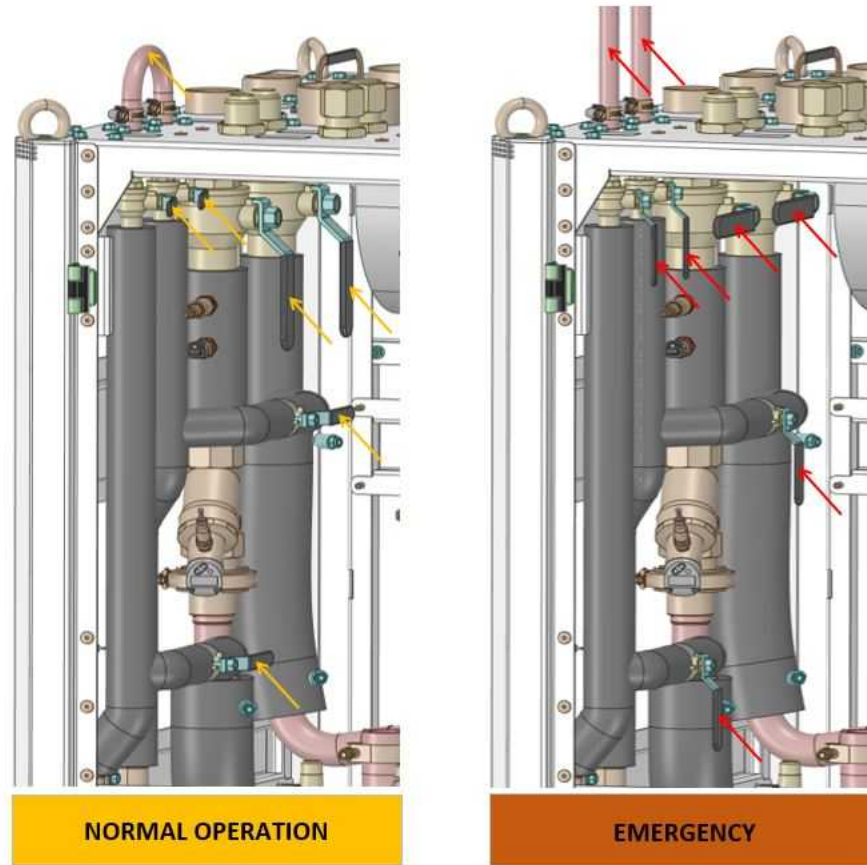

Figure 4-1: City Water Valve Configuration (on right)
5. Configure the CRY and CW valves as follows (valve configuration label also provided on the inside of the ICC door as shown in Figure 4-1):
4. Configure the CRY and CW valves as follows (valve configuration label also provided on the inside of the ICC door as shown in Figure 4-1):